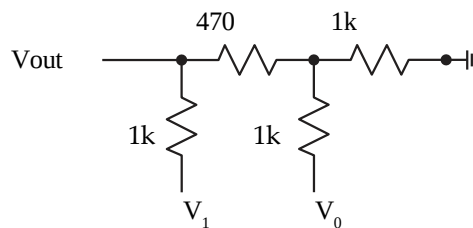

Figure 4.6: Two-bit R-2R ladder.
1. Using the circuit in Figure 4.6, calculate the ideal output voltages for the following combination of voltages and table the values:
2. Construct the circuit in Figure 4.6 and measure the output voltage using the oscilloscope and table the values. To generate the changes in voltages, set: